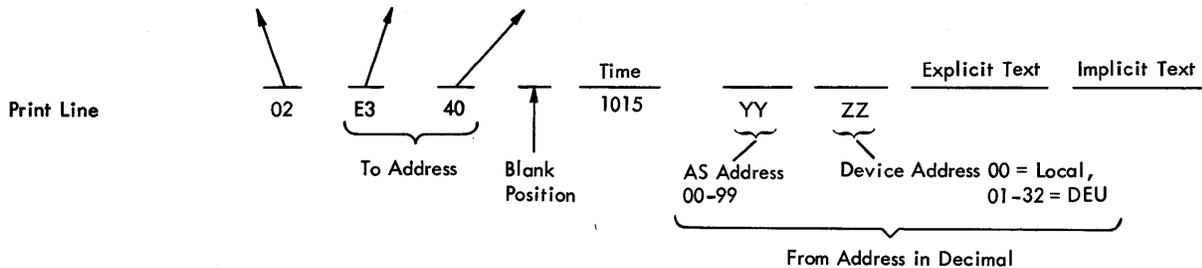

Figure 26. Message Format—AS or DEU to 1053
**AS or DEU to 1053 Printer Message (Message Routing).** Messages routed from a Data Entry Unit to an Area Station to a 1053 Printer are formatted as shown in Figure 26. In addition to being routed to a 1053, the message may be logged on the 2740 and/or sent to the CPU as deferred or priority data.